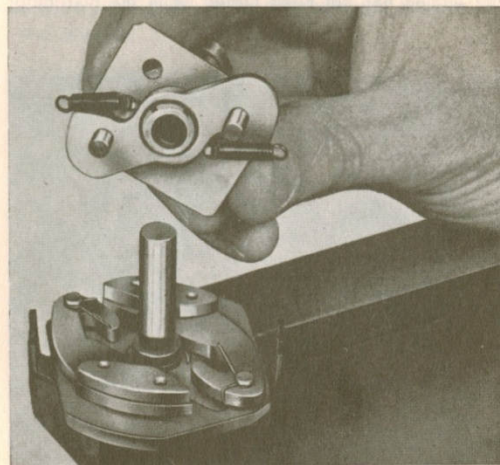

Fig. 10-57. Fitting the contact breaker camshaft
2. Lubricate and fit the breaker camshaft and put on the springs, see Fig. 10-57.